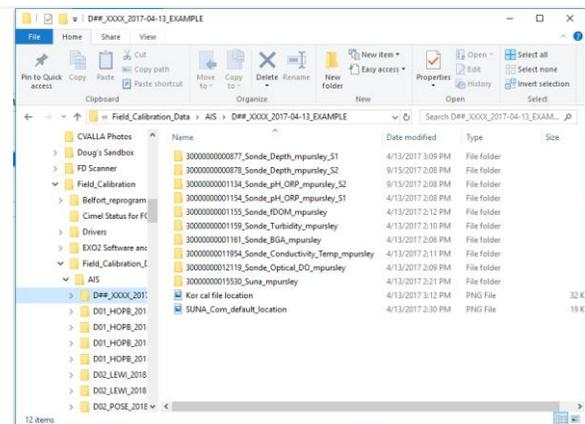

Figure 65.
**STEP 8 |** Move the calibration file to the project Network Drive folder for CVAL Field Calibration Data (Figure 65).